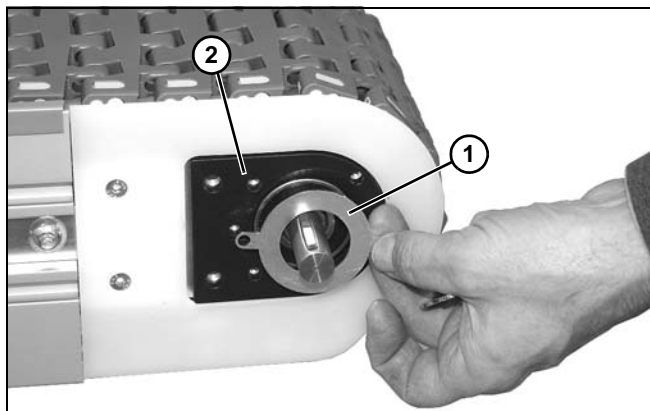

Figure 118
10. Remove bearing stop plate (Figure 118, item 1) from drive backing plate (Figure 118, item 2).